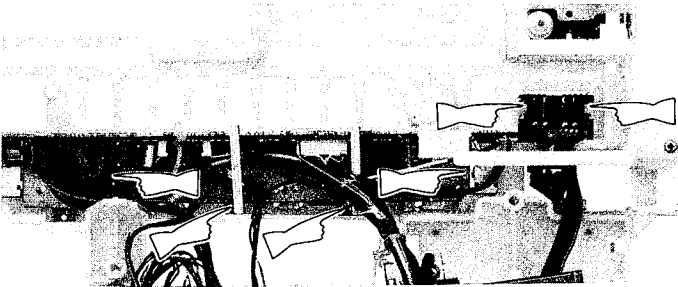

Figure 8-4
5. Withdraw the record/playback P.W.B., and remove two screws and two tabs at the angle supporting the volume P.W.B. See Fig. 8-4.
6. Remove two tabs at the APLD switch P.W.B. Thus it is possible to detach the record/playback P.W.B. and volume P.W.B. from the main frame. See Fig. 8-4.